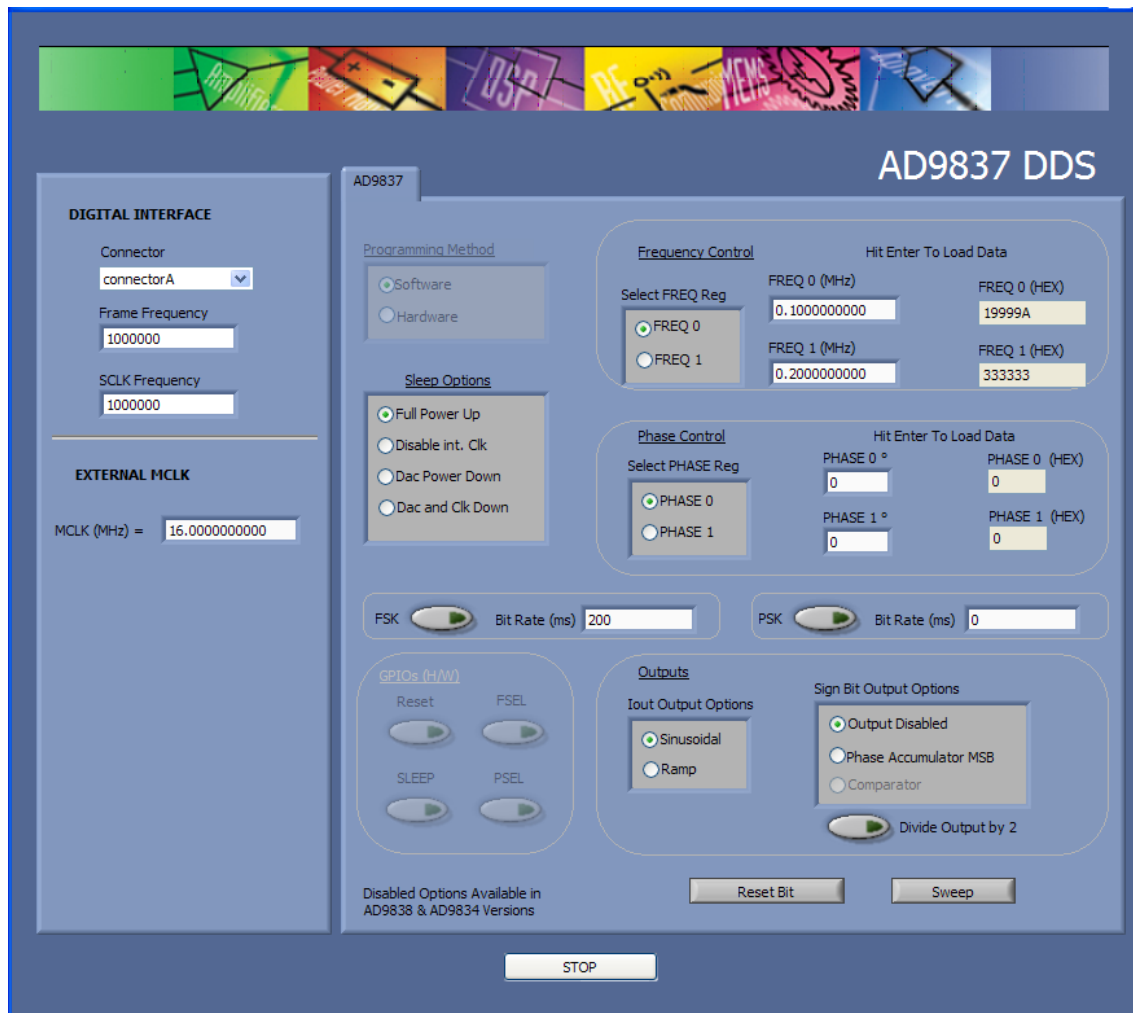

Figure 4. AD9837 DDS Evaluation Software
3. Ensure that all links are in their correct locations (see Table 1). The main window of the AD9837DBZ evaluation software then opens, as shown in Figure 4.